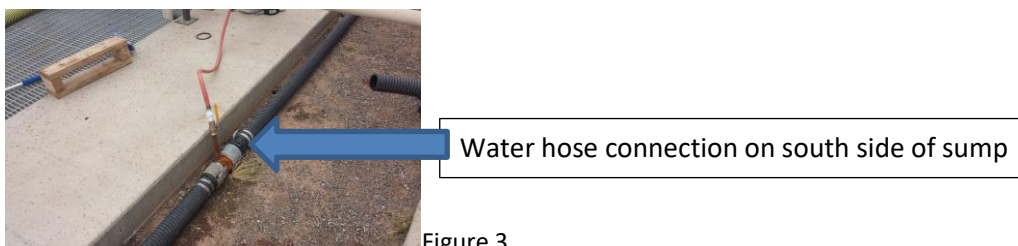

Figure 3
- 5.1. When finished sending product through bypass make sure to have HMI operator turn on spray valves on DAF to wash out lines and hoses so no algae gets dried up in hoses or lines. Leave water hose on until you see water come out clear in lift station. See figure 3.